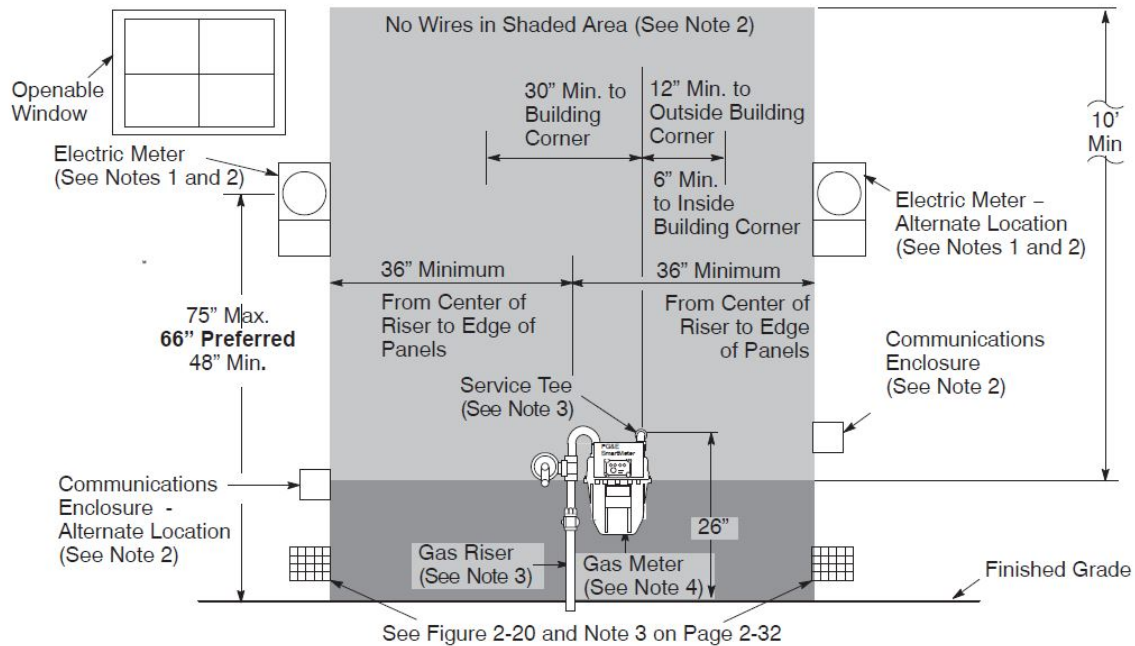

Figure 2-19
- Figure 2-19, “Electric and Gas Meter Set Separation Dimensions and Clearance,” below; Figure 2-20, “Gas Meter Set Clearance From Building Openings,” on Page 2-32; and figure 2-21, “Gas Regulator Set Clearance Requirement From Sources of Ignition,” on Page 2-33, all represent various metering facilities’ clearance requirements. If applicants install enclosures on their premises, the enclosures must meet the specifications provided in these illustrations.
Notes in Reference to Figure 2-19.
- The minimum dimensions and clearances in figure 2-19 are good for gas meters up to the 1,000 class. See Figure 2-15 on Pages 2-26 and 2-27 for illustrations of clear and level working space in front of the gas meter.